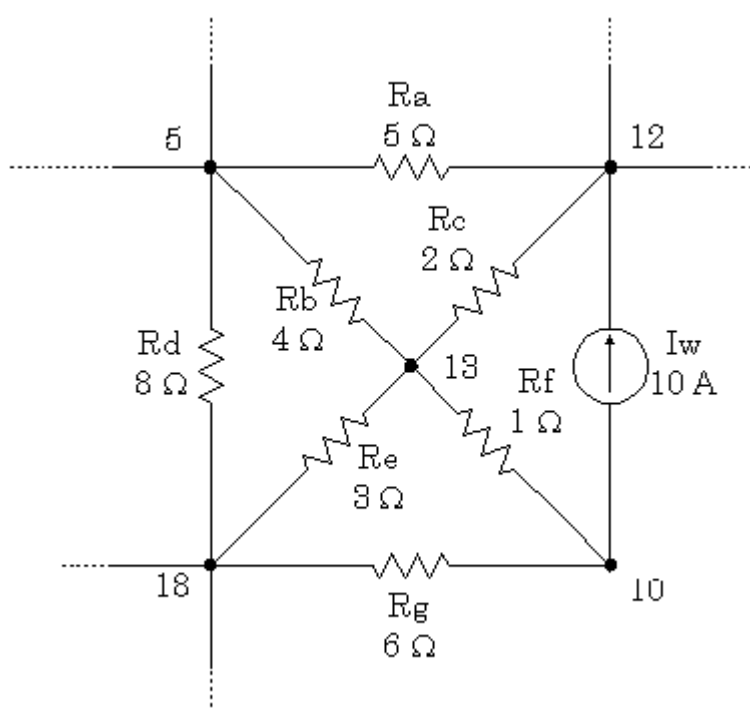

Fig. 1 : Subcircuit of Example\_1
- 1. Draw the subcircuit of Fig. 1.